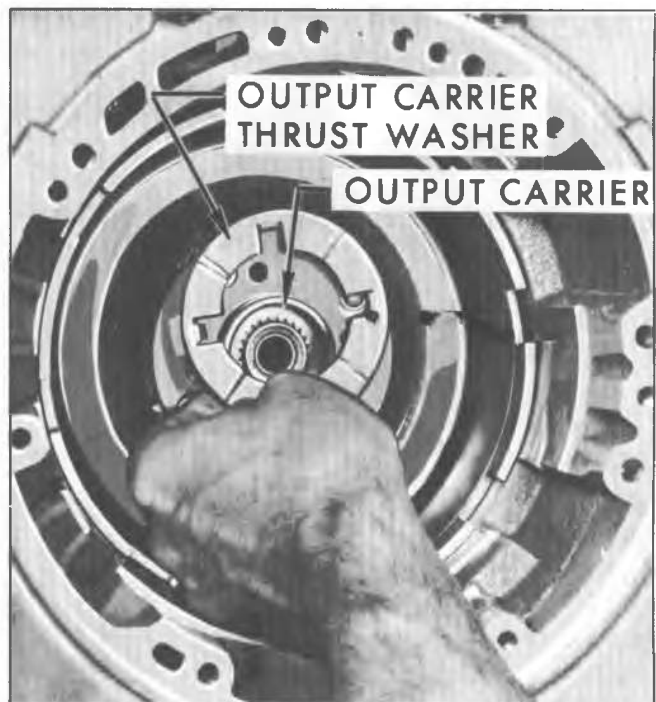

Fig. 7A-39B--Removing Input Ring Gear Rear Thrust Washer
11. Remove input ring gear rear (output carrier) thrust washer (fig. 7A-39B).